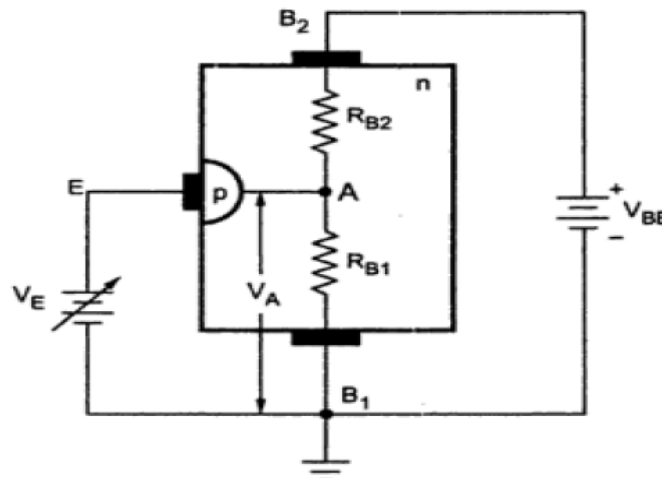

Fig. 5.32 Operation of UJT
- This arrangement is shown in the Fig. 5.32.